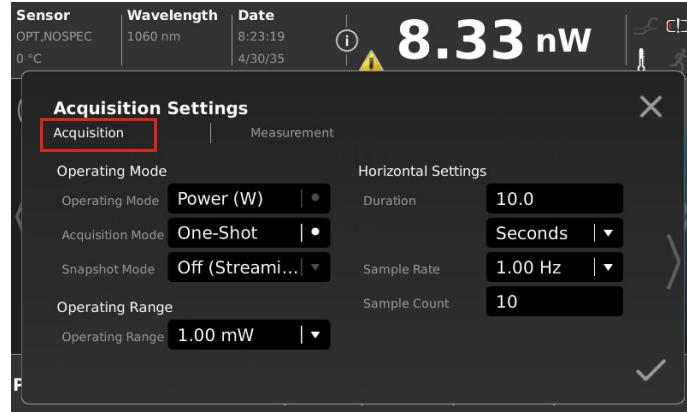

Figure 6-2. Acquisition Settings
5. Make sure that the **Acquisition Settings** sub-tab is selected. Refer to Figure 6-2.